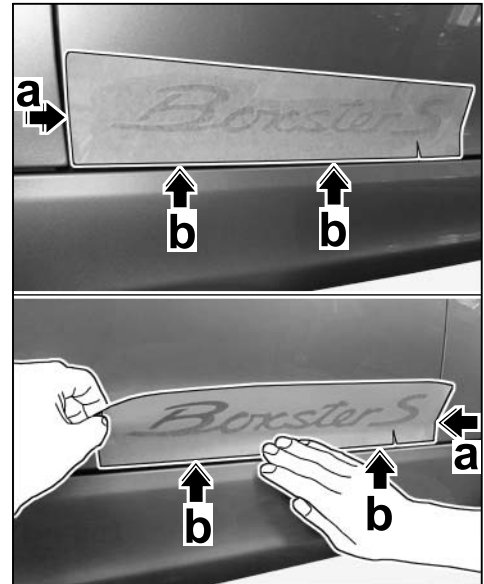

Figure 7
- 2.5.2 Lower side of logo on bottom edge of door ⇒ *Figure 7 -arrows b-*.
Left side and right side of logo on front edge of door ⇒ *Figure 7 -arrow a-*.